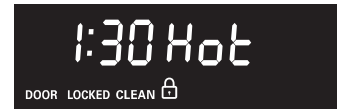

Fig.7
1. The time of day, "**Hot**, **DOOR LOCKED**" and "**CLEAN**" icon will remain in the display (See Fig. 7).